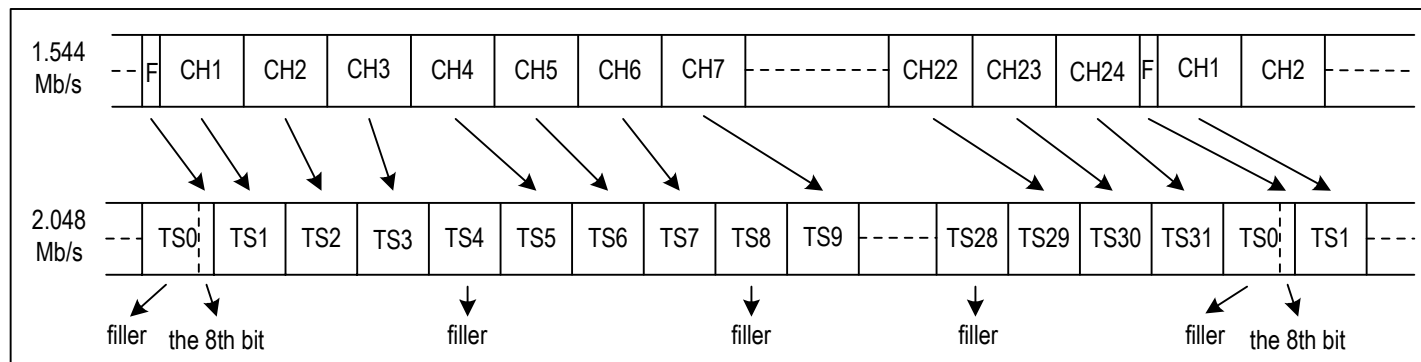

Figure 19. T1/J1 To E1 Format Mapping - One Filler Every Fourth Channel Mode
- T1/J1 Mode E1 Rate per One Filler Every Fourth CH (refer to Figure 19): One dummy byte is inserted on the system side before 3 bytes of Frame N from the device are converted. This process repeats 8 times and the conversion of Frame N of 1.544 Mb/s data rate to 2.048 Mb/s data rate is completed. However, the F-bit of Frame N of the 1.544 Mb/s data rate is inserted as the 8th bit of Frame N of the 2.048 Mb/s data rate. The dummy bytes are filled with all '0's and they are meaningless.